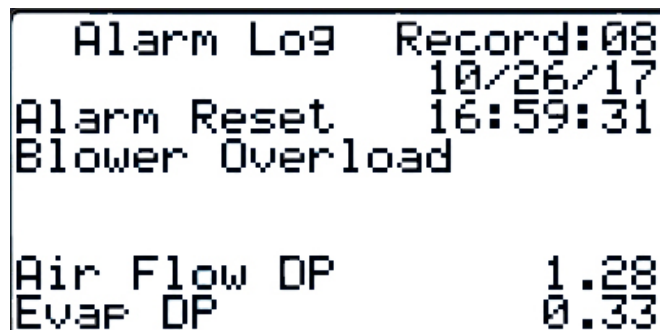

Figure 111
3.3 Alarm Log (Figure 111)
The Alarm Data Logger Screen is accessible from the Alarm Reset screen (See Figure 111) by pressing the **ENTER** key. This screen shows records of the alarm log. The bottom two lines will show the pertinent data that was recorded when the alarm occurred. Use the **UP** and **DOWN** keys to view other records.